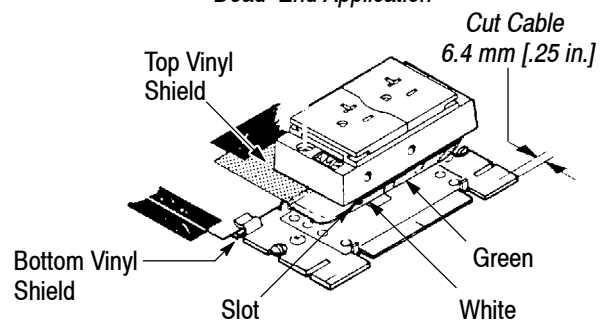

Figure 5
assembly will enter the blank holes in the mounting plate. See Figure 5.
a. Cut the cable square about 6.4 mm [.25 in.] from the end of the mounting plate. See Figure 5.
7. Thread, but do not tighten, the two outer screws of the receptacle assembly shown in Figure 5.